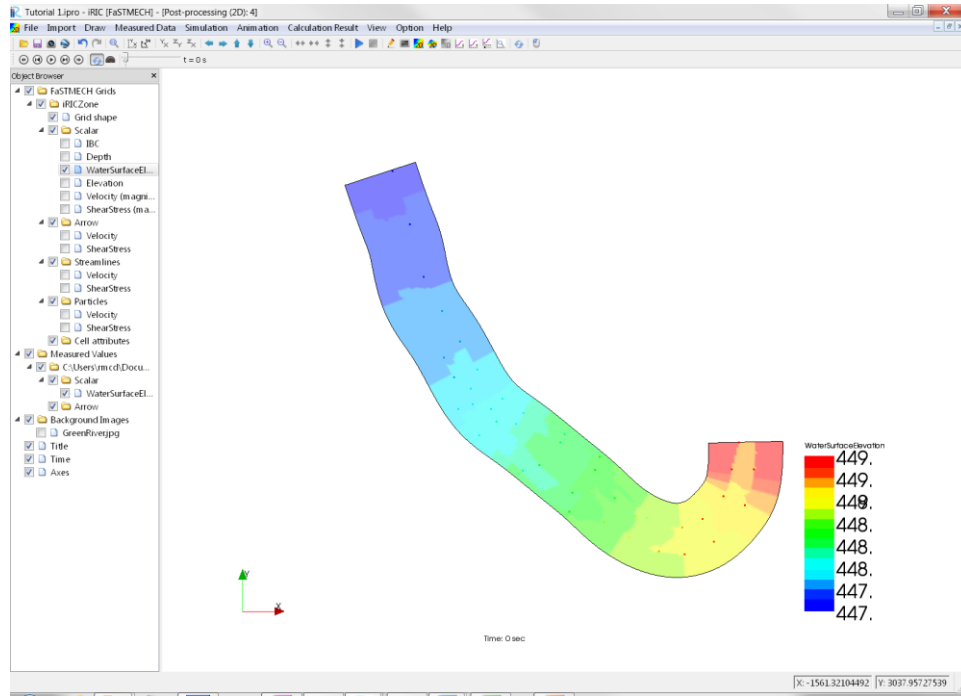

Figure 15. Initial display of the simulated water-surface elevation.
- In the **Object Browser** select the check box next to iRICZone | Scalar | WaterSurfaceElevations (Figure 15).